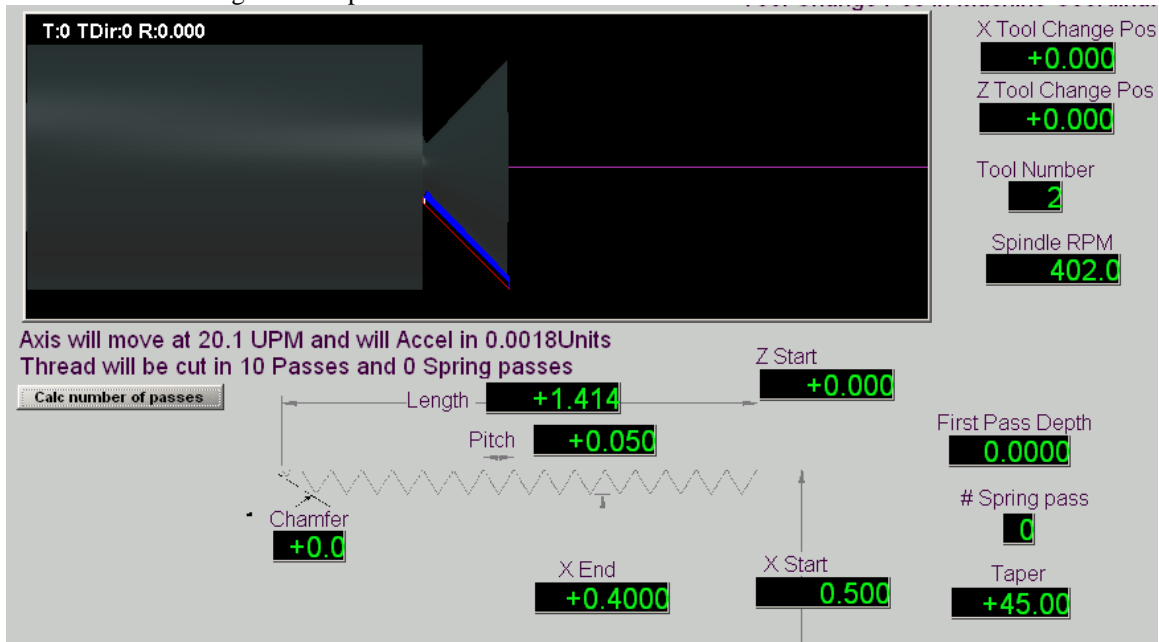
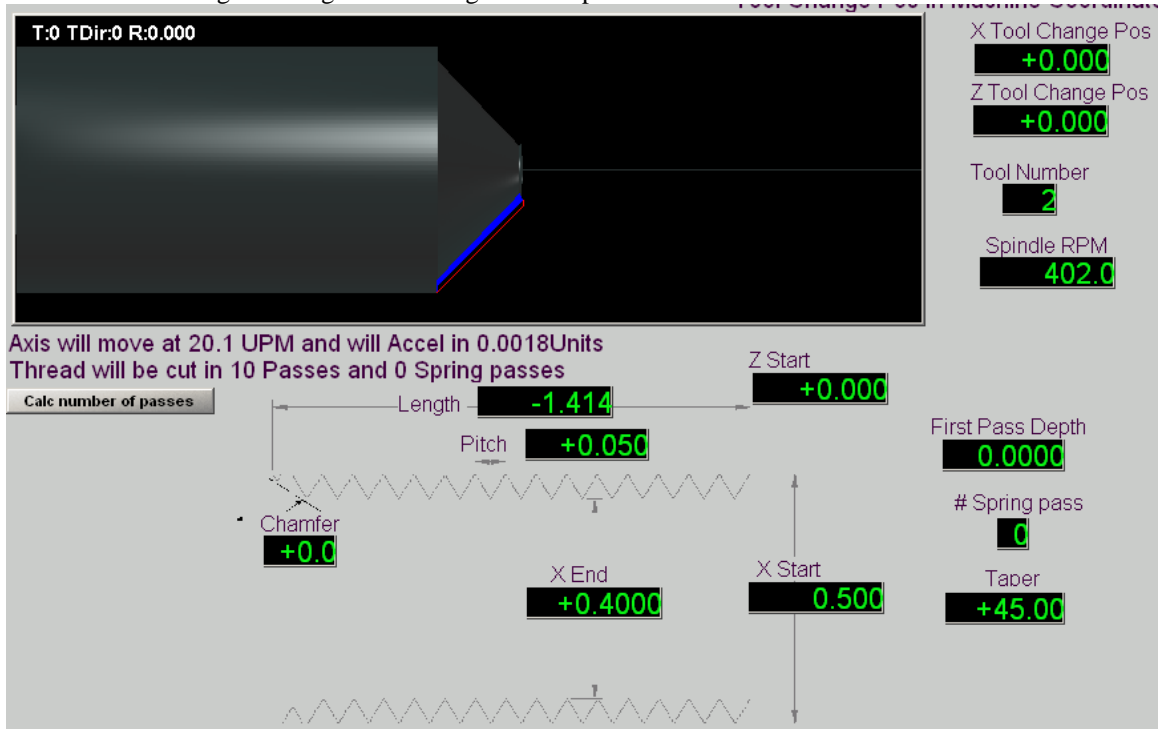

FIGURE 3
FIGURE 4
The threading file in Mach3 Turn using inputs from figure 4.
2. Positive values of length generate code for an inward cutting (FIGURE 3) and negative values of length generate code for an outward cutting (FIGURE 4).